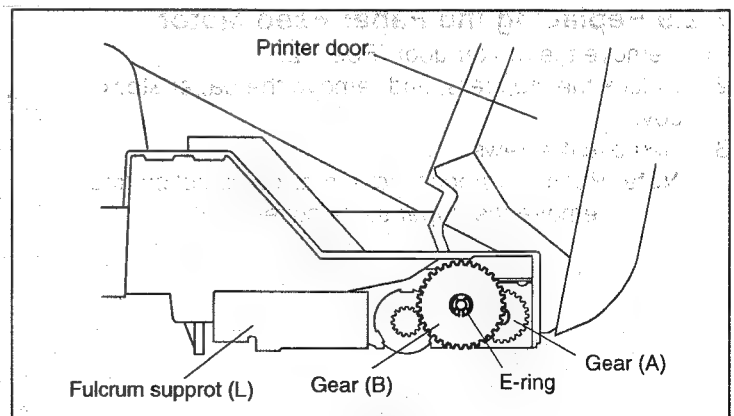

Fig. 7-39
- 6) Remove 4 screws (A), and remove the fulcrum support (R).
- 7) Remove E-ring as shown in Fig.7-39, and pull out the gear (A) and (B).
- 8) Remove 4 screws (B), and remove the fulcrum support (L).